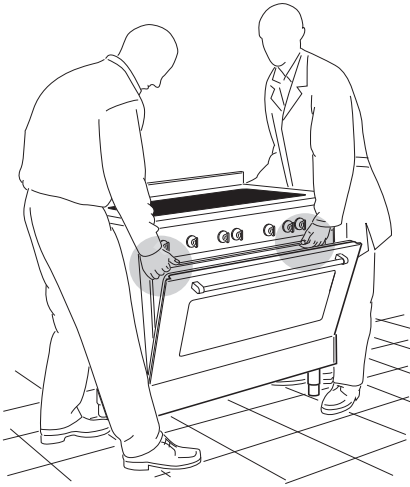

Fig. 1.6
**WARNING:** When raising cooker to upright position always ensure two people carry out this manoeuvre to prevent damage to the adjustable feet (fig. 1.6).
Lift feet clear of floor (fig. 1.6).